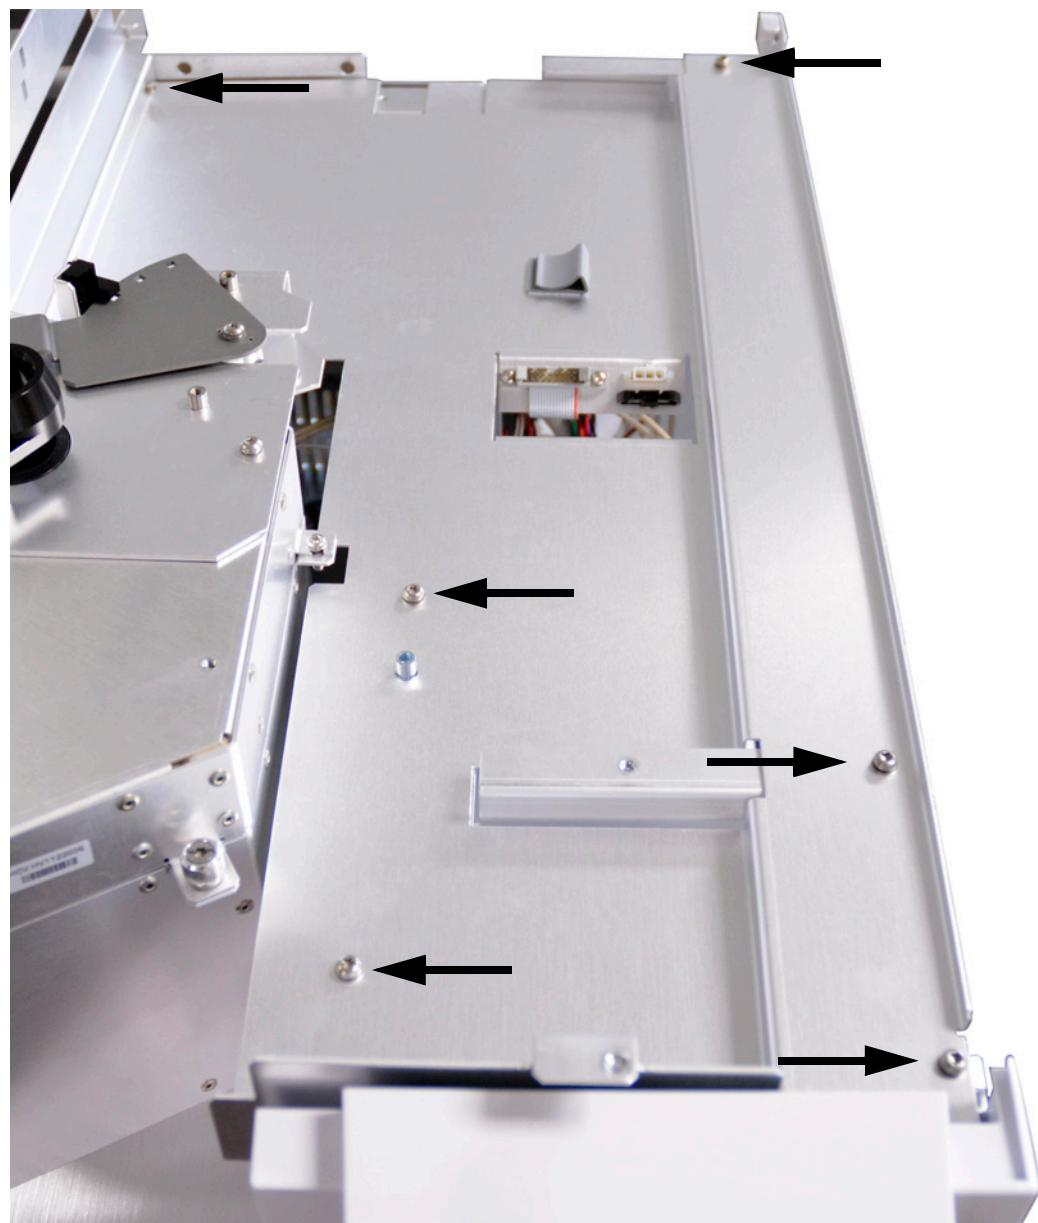

Figure 26 Install T-20 Torx screws to secure the top instrument cover to the headspace
- 5 Install the T-20 Torx screws shown in Figure 26 to secure the top instrument cover to the headspace.